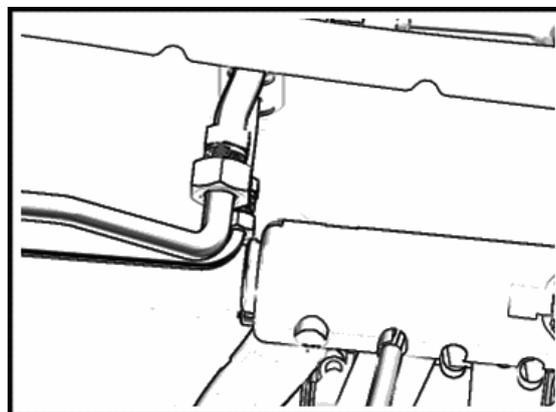

Figure 6-18
- (1) Discharge coolant from the system.
- (2) Disconnect air conditioner pipeline assembly (as shown in Figure 6-18).